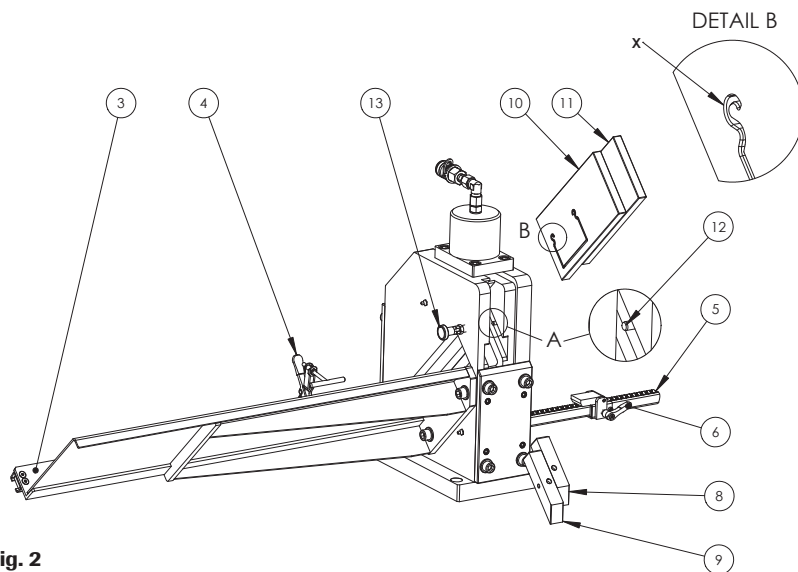

Fig. 2
If the shear plates are chamfered (see fig. 2, detail B), ensure that the chamfered side of the left shear plate shows to the left side and that of the right shear plate to the right side.
1. Insert the profile to be cut as shown in figure 2
3. Install and fix the wedges (item 8 and 9) to secure the shear plates